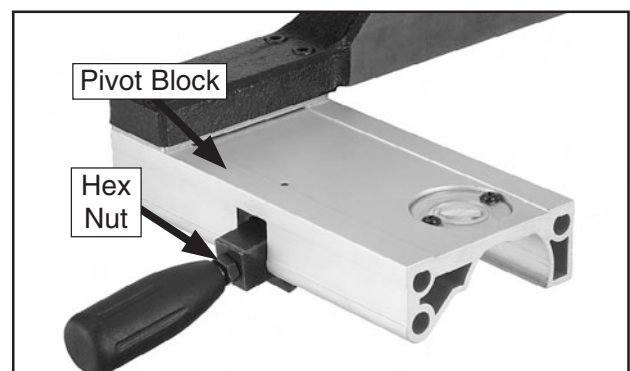

Figure 33. Handle installed on fence assembly.
3. Install an M8-1.25 hex nut on the fence handle, then thread the handle into the fence assembly (**Figure 33**). Tighten the hex nut against the fence pivot block to secure the handle.